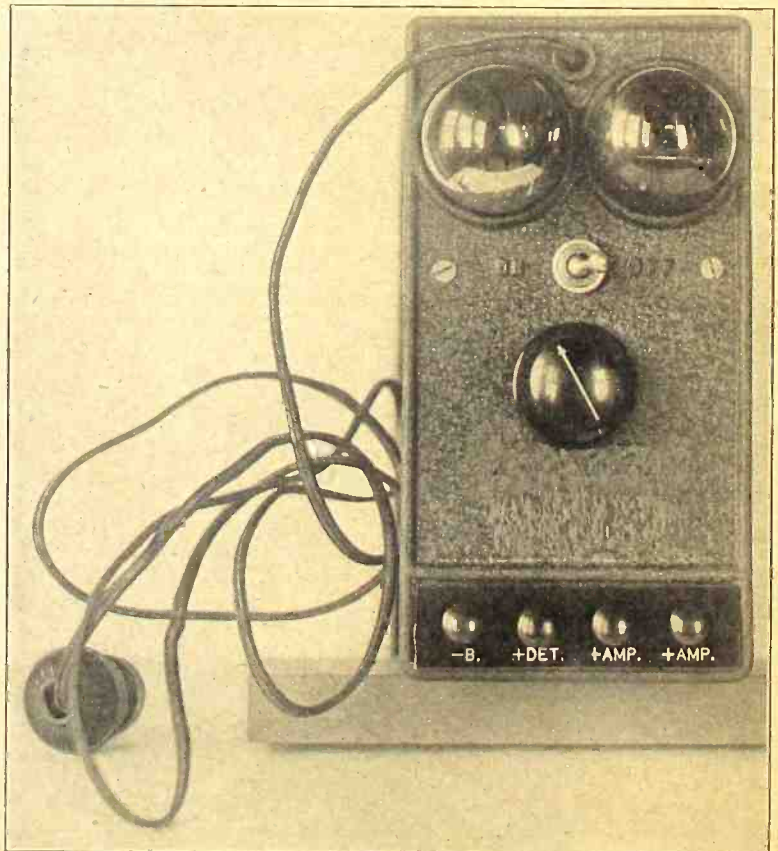
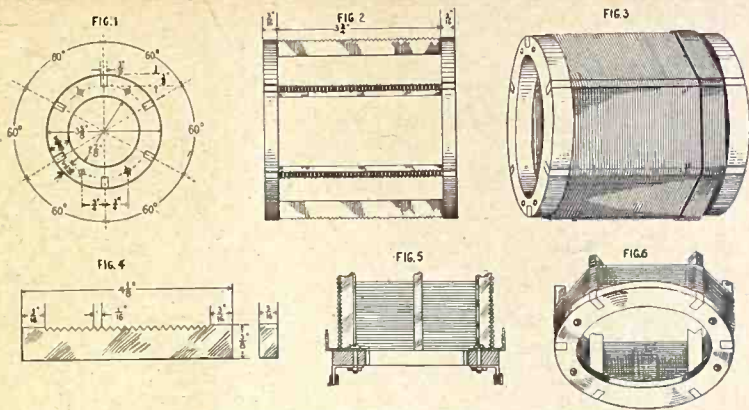

FIG. 3, the front view of the Compact Eliminator.
FIG. 286, showing how to make a tuned RFT
FIG. 2 (top), a side view. The layout of the parts can be clearly seen therefrom. Fig. 3 (bottom), showing the choke coils mounted one over the other. Note the metallic shield in back of the chokes.
Fig. 286, shows the diagrams, which illustrate the various steps as to the construction of such an RFT. Fig. 1, in this group, shows the dimensions for one of the circular heads, used to mount the strips. Fig. 2, shows the length of the strips, which may be of hard rubber or wood and also that of the width of the head, with manner of mounting. Fig. 3, shows how the primary and the secondary are placed. Now, since you are going to use the .0005 mfd. variable condenser, the secondary will consist of 45 turns. The method of making the notches to fit the windings is shown in Fig. 4. You will note, however, that when making these notches, by following the diagrams, you will have 67 notches, or 22 to spare. However, you do not have to use a form 4 3/4" long. Use one which is only 3 3/4" long. Then you will find that there will be just enough room for the placing of these turns of wire. The primary consist of 10 turns and may be wound on top of the beginning of the secondary winding or alongside of the secondary winding. Fig. 5, shows how to mount the coil on angle brackets. The last Fig. (6), shows how the strips are fitted into the slots of the circular head. No. 22 double cotton covered wire is used to wind the coil. Do not place any shellac or varnish on these coils. Collodion may be applied, but very sparingly. If the notches are deep enough and the windings tight enough, you should have little trouble in making the windings stay securely.